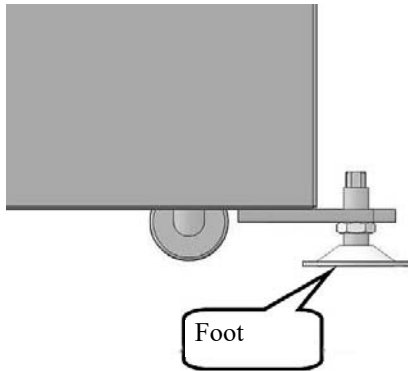

Fig. 10: Adjusting the machine feet
Step 7: Adjust machine base (Fig.10) to the desired height.